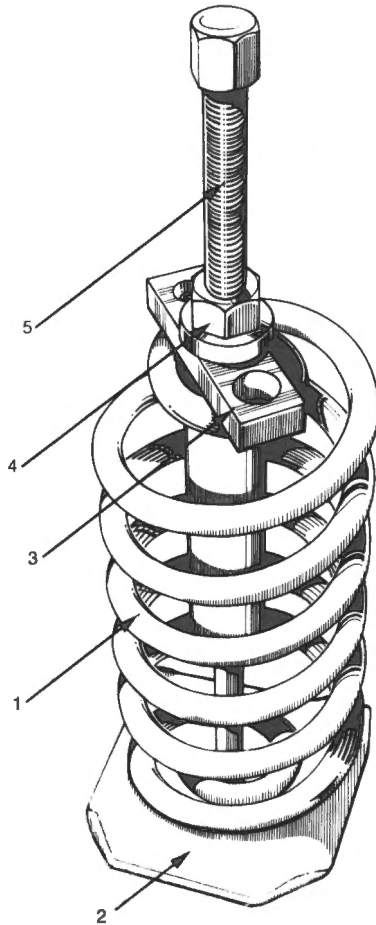

Fig. O-19
To remove the spring hooks, the rear coil spring is compressed with tool No. 18GA574 and one adaptor plate illustrated in Fig. O-19. using the following method.
- 1 Locate the body of tool No. 18GA574 on the top of the spring (Refer Fig. O-19) and place the plate having the 12.7 mm ($\frac{1}{2}$ in) hole on the bottom of the spring.